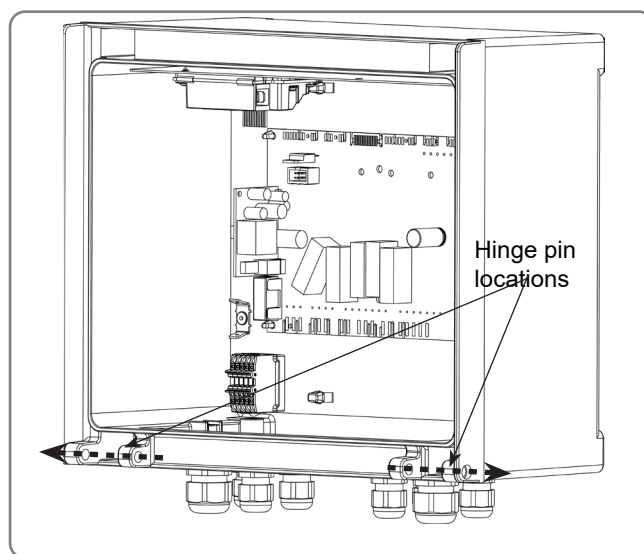

figure 6 - Door hinge pin locations
- Open and remove the door by removing the hinge pins shown in figure 6 from the outside.